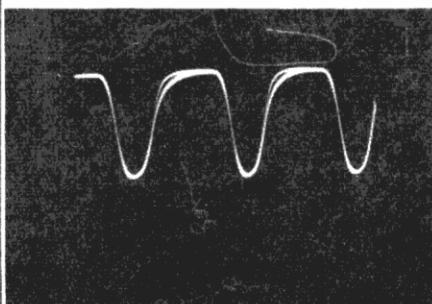

Fig. 84. Pin No. 1 V209
5. If at step No. 3 C226 is okay, observe waveform at pin No. 1 of V209. This waveform should be approximately the same as Fig. 84.